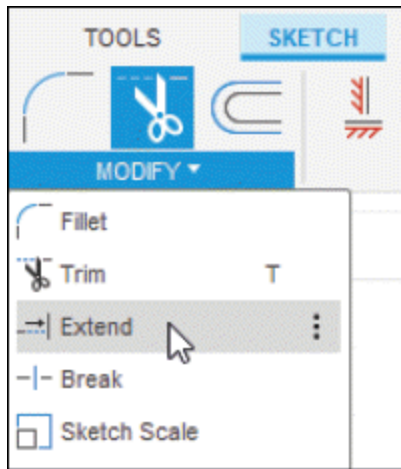

Figure-80. Extend tool
- Click on the **Extend** tool of **MODIFY** drop-down from **Toolbar**; refer to Figure-80.